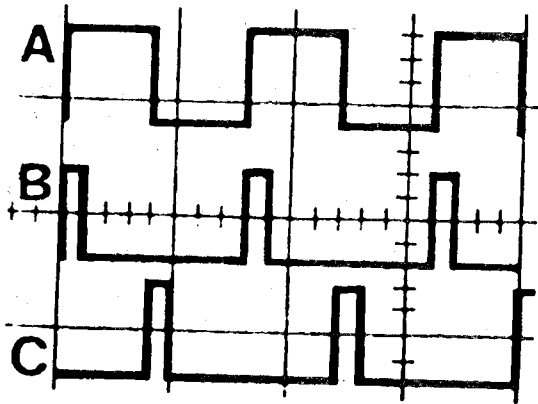

FIGURE 1
- A. In Figure 1 above, "A" is the input to one of the white gating leads.